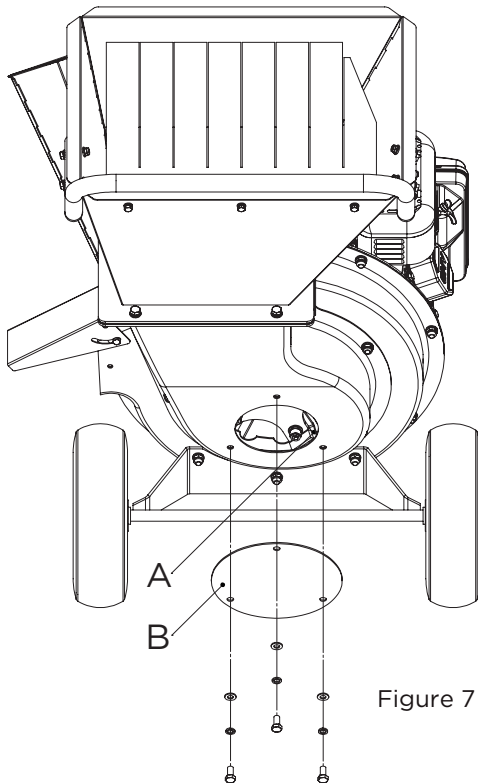

Figure 7
Install the Suspender (See Figure 7)
Inspect / Rotate Shredding Hammers (See Figure 7)
2. Remove the small circular access panel (B) from the back of the shredder housing. SEE FIGURE 7
3. Inspect the cutting edges of the Y-hammers (A).